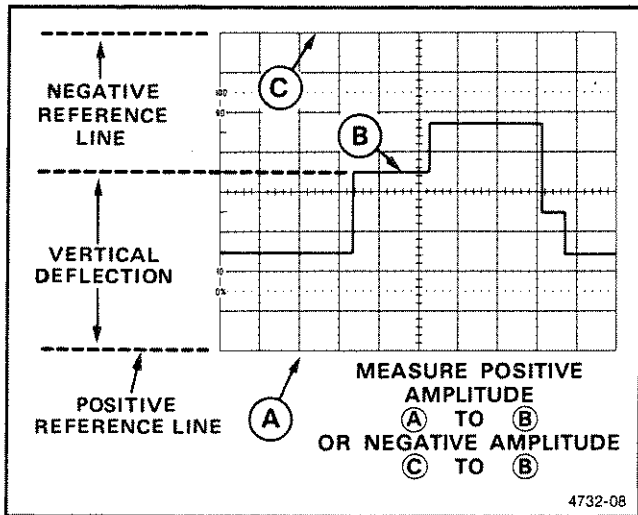

Figure 2-11. Instantaneous voltage measurement.
- Measure the divisions of vertical deflection between the ground reference line and the point on the waveform at which the level is to be determined (see Figure 2-11).
EXAMPLE: The measured vertical deflection from the reference line is 4.5 divisions (see Figure 2-11), the waveform point is above the reference line, a 10X attenuator probe is being used, and the VOLTS/DIV switch is set to 2 V (at 10X PROBE setting).